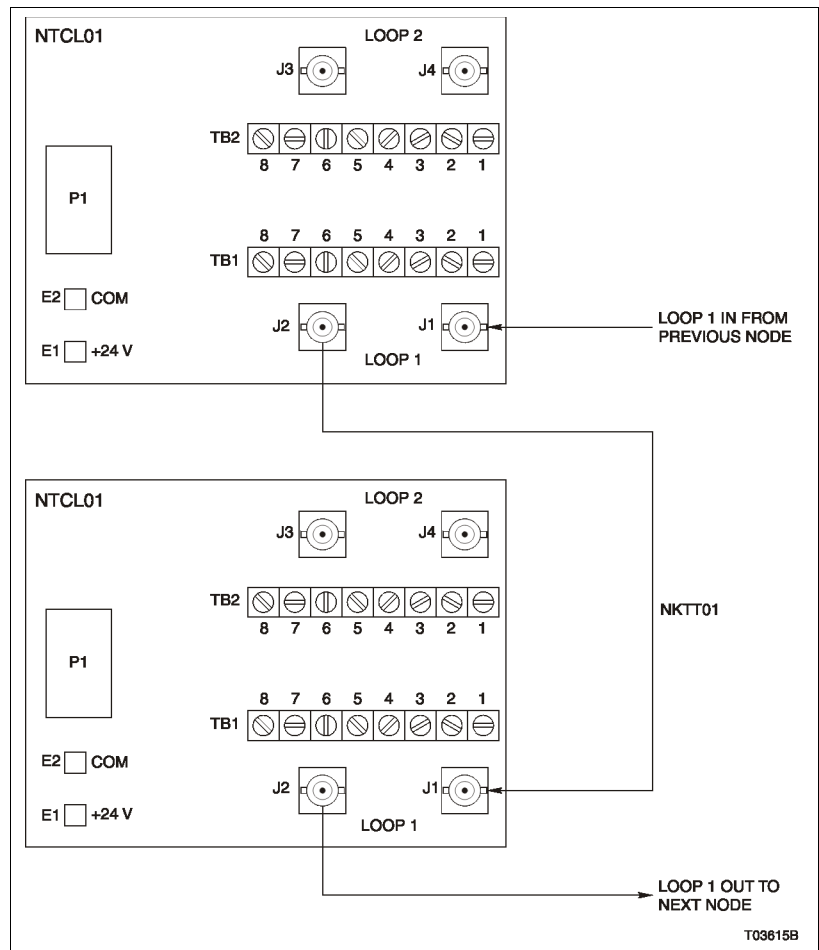

Figure PR9-1. Intracabinet Coaxial Cnet Cable Connection
- ☐  Use a NKTT01 cable to make coaxial connections between NTCL01 units that are located within the same enclosure (Fig. PR9-1).